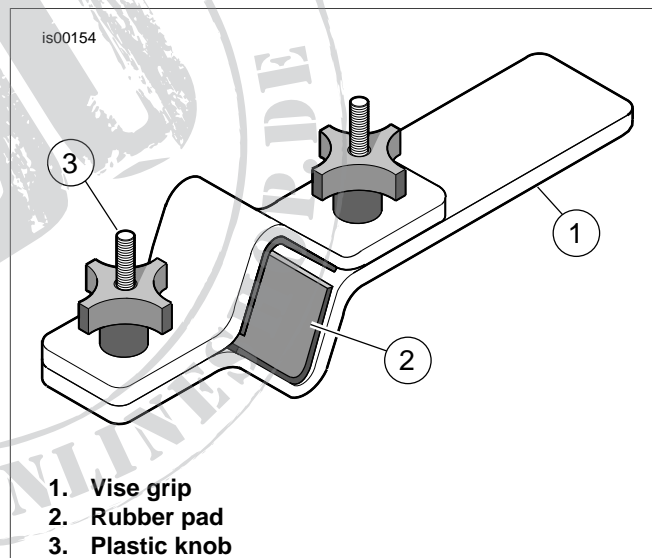

Figure 1. Fork Tube Holder (HD-41177)
3. See Figure 1. Install fork in Fork Tube Holder (HD-41177) as follows:
- a. Clamp end of tool (1) in vise in a horizontal position.
- b. With the fork cap bolt topside, clamp fork tube between rubber pads (2) on inboard side of tool. Tighten knobs (3) until fork tube is securely held.